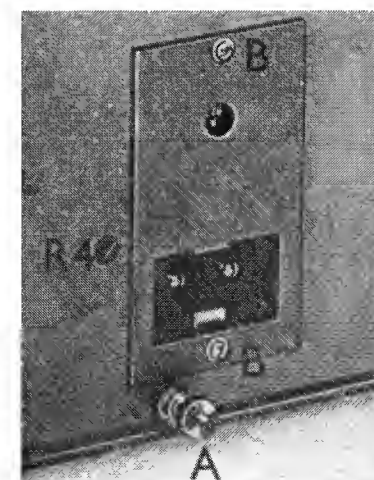

Fig. 3
The apparatus can be adjusted to mains voltages of 110, 125, 145, 200, 220 and 245 V by means of a voltage adaptor. The adjusted value can be read through the circular opening in the rear panel of the apparatus (see Fig.3). When the apparatus is to be adjusted to another mains voltage, one must proceed as follows:
Before connecting the apparatus to the mains, it must be earthed in accordance with the local regulations. Earthing is effected via the earthing screw "A" at the back of the apparatus (see Fig. 3; the earth lead should be as short as possible). If the apparatus is equipped with a three-core mains cable fitted with a plug with rim-earthing, the earth connection can also be established via the mains cable. For measurements of low voltages or for measurements at high frequencies, earthing via the mains cable is not advisable, however, as considerable measuring errors may occur. If the circuit to be measured is already earthed, the voltmeter is earthed via the screening of the measuring cable. In this case the earthing of the GM 6012 via the earth screw should be disconnected.
5. Check whether the meter reading is exactly 100 calibrations (scale 0-100). If necessary, adjust the deflection by means of potentiometer R4 (on the rear panel, see Fig. 3).